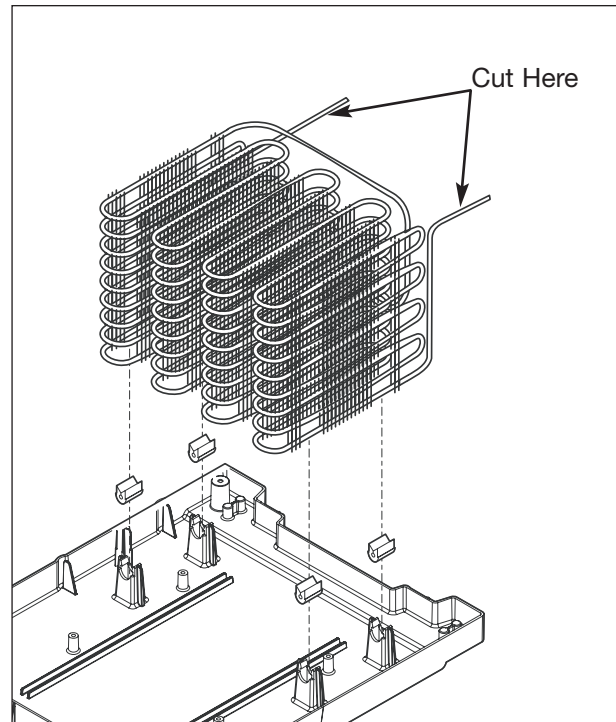

Figure 5-31. Condenser Removal
5. Disconnect inlet and outlet lines from condenser. (See Figure 5-31)